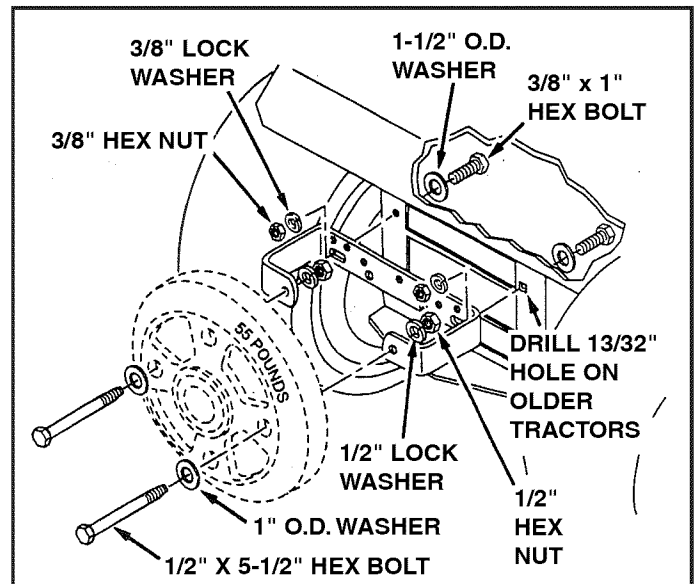

FIGURE 2
1. Assemble two 1.5" O.D. washers (8) onto two 3/8-16 x 1" hex bolts (3). Insert bolts through drawbar and assemble weight bracket onto bolts. Fasten securely with two 3/8" lock washers (10) and two 3/8-16 hex nuts (12). See figure 2.
2. Assemble wheel weight to weight bracket (1) using two 1/2" x 5-1/2" hex bolts (15), 1" O.D. washers (6), 1/2" lock washers (9) and 1/2-13 hex nuts (11). Tighten securely. See figure 2.